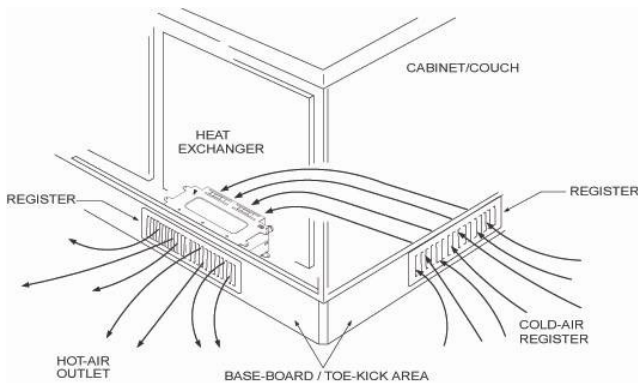
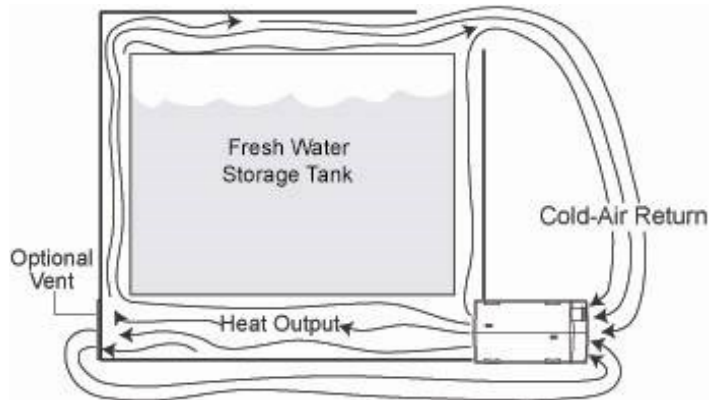

Figure 13
Figure 15
2. Mount each heat exchanger permanently into place. Reference figure 13 and figure 16 (next page.)
3. Install the hot-air outlet and cold-air return registers. Reference figure 13 below.
Place the heat exchangers where they will be accessible for potential maintenance. If used for bay heating, centralize and position a heat exchanger in the fresh water storage tank plumbing bay. To achieve best results, place the heat exchanger as close to the floor of the plumbing bay as possible. Reference figure 11, figure 13, and figure 15 and for mounting location information. Reference figure 16 for clearance information.